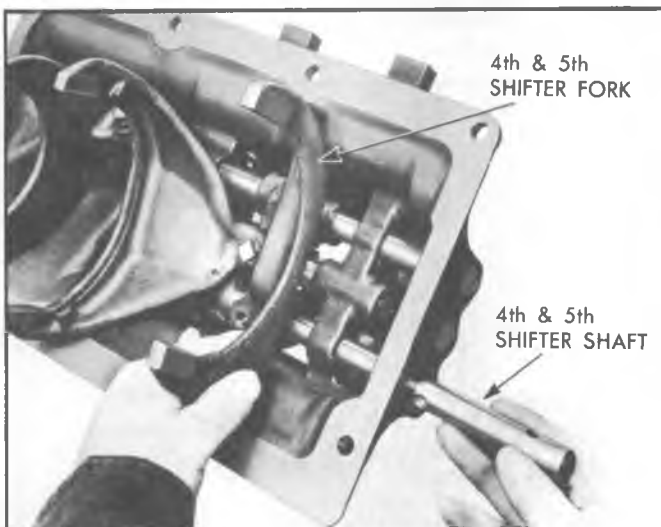

Fig. 11R--Removing Interlock Pin
7. Remove set screw from second-and-third shifter shaft and tap shaft out through hole in front of cover. Remove fork. Slip interlock pin from shaft (fig. 11R). Remove interlock poppet through hole for shaft (fig. 10R).
4. Insert second-and-third shifter shaft (shaft with hole for interlock pin) through hole in front of cover and through forward boss. Slide fork having largest web onto end of shaft, with fork to rear and install interlock pin in shaft (fig. 11R).